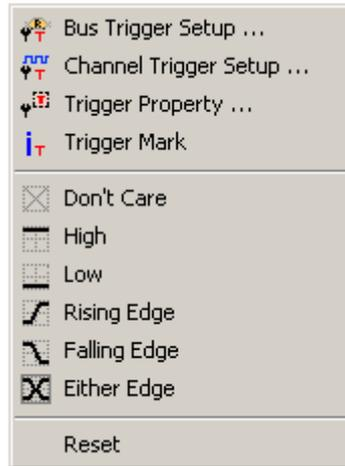

Fig 4-15 -Trigger Menu
**Step 1.** Click  icon or click Bus Trigger Setup on the Trigger menu to open the Bus Trigger dialog box.. The Trigger menu will appear as shown in Fig 4-15.